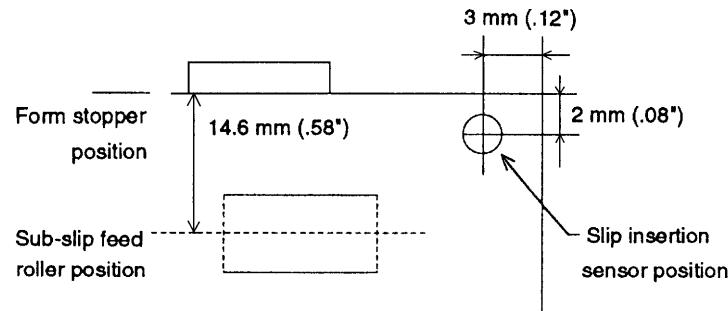

Figure 1-5. Slip Insertion Sensor Position
- Since the slip insertion sensor uses a photo sensor, paper that has holes at the sensor position, or is translucent, must not be used (see Figure 1-5).